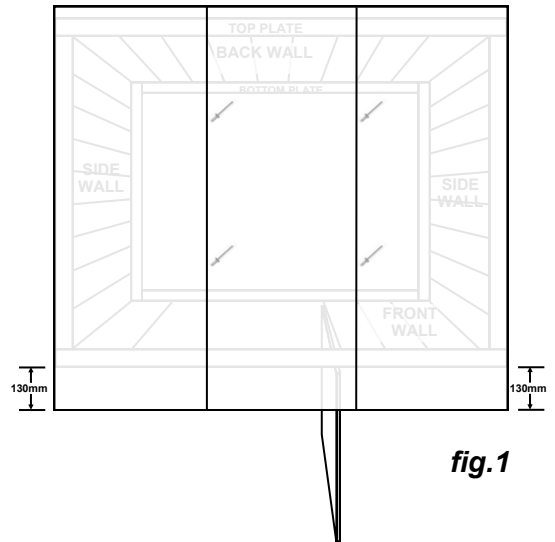

fig.1
- Check that the Bottom Plate is straight then nail the wall sheets to the Bottom Plate, two clouts per pan (see **fig. 1**).
- Position the Roof Sheets with front overhang of 130mm at each end (fig. 1).